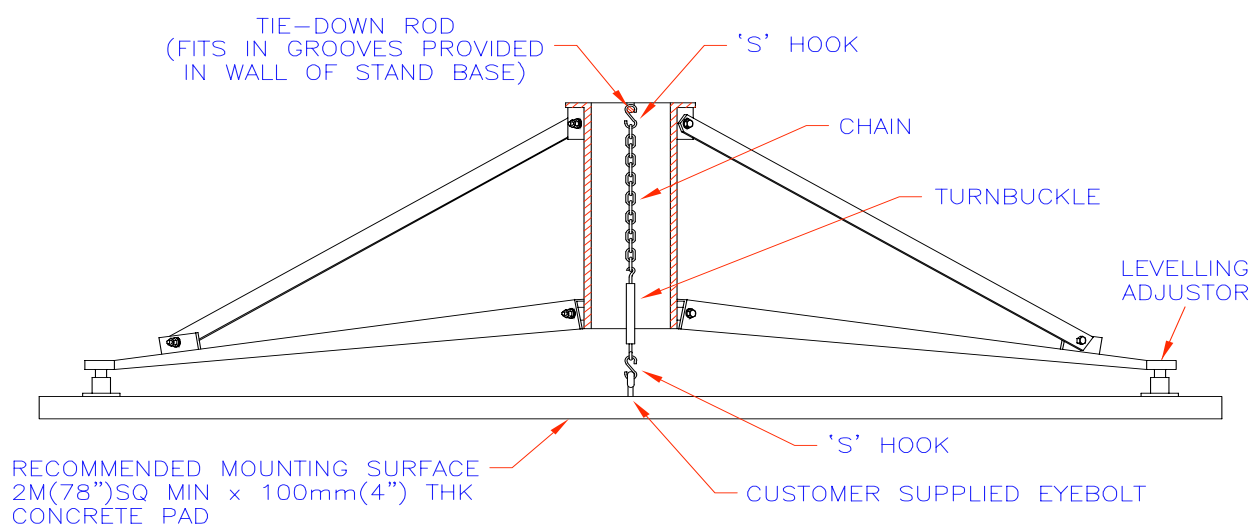

Fig 3.6: Securing the Tripod
6. Use the Tripod “tie-down kit” to secure the tripod against movement due to accidental bumping or high winds. See Figure 3-6.